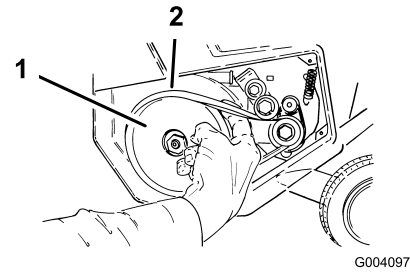

Figure 18
- Rotate the rotor with your left hand while sliding the belt off the large pulley with your right hand (Figure 18).
- Remove the large belt by slowly sliding it off the small pulley (Figure 18).